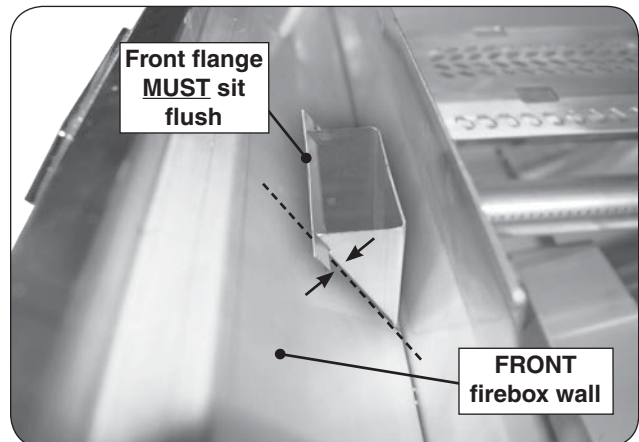

Fig. 32-3 Drip tray chute installed
3. To replace, drop the chute back into the top and bottom cutouts of the front firebox wall. The front flange MUST sit flush against the firebox wall. See Fig. 32-3.